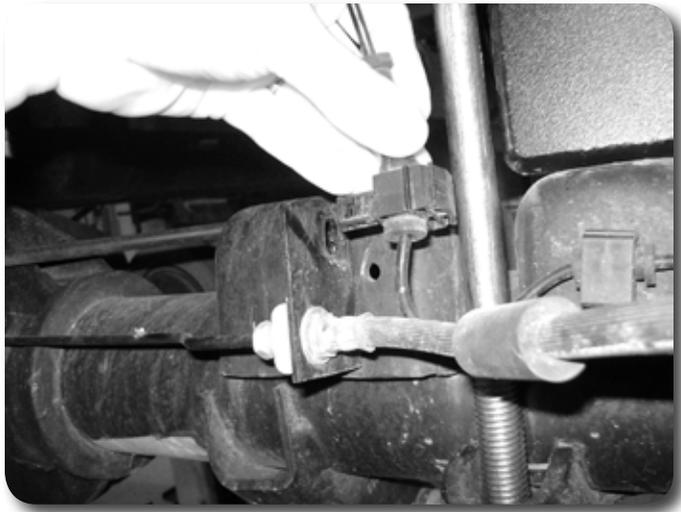

Figure 3
6. Remove the ABS wire clips from the metal tabs just inside of the leaf springs. Remove the plastic clips from the ABS wire. **Figure 3**